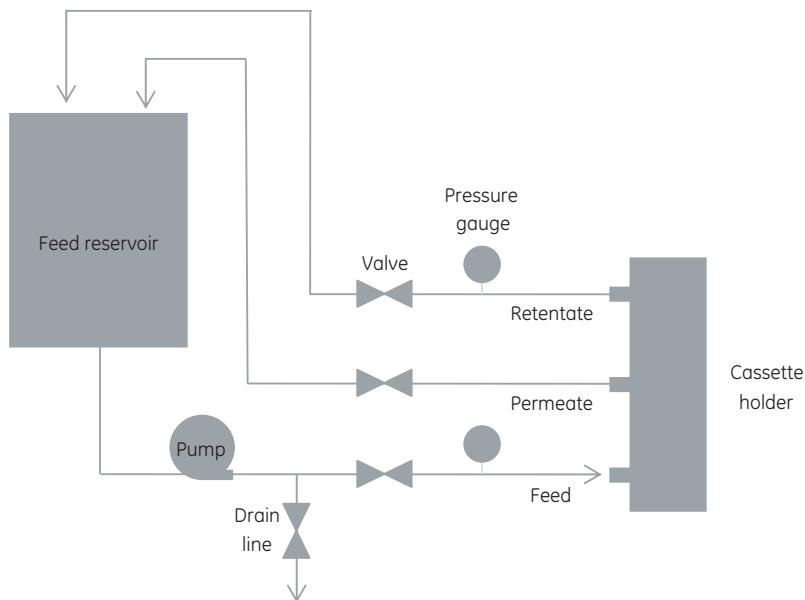

Fig 14. Typical setup for sanitizing a cassette and system
- 1 Configure the system so that the retentate and permeate lines discharge into the feed reservoir (Figure 14). Close the drain valve.